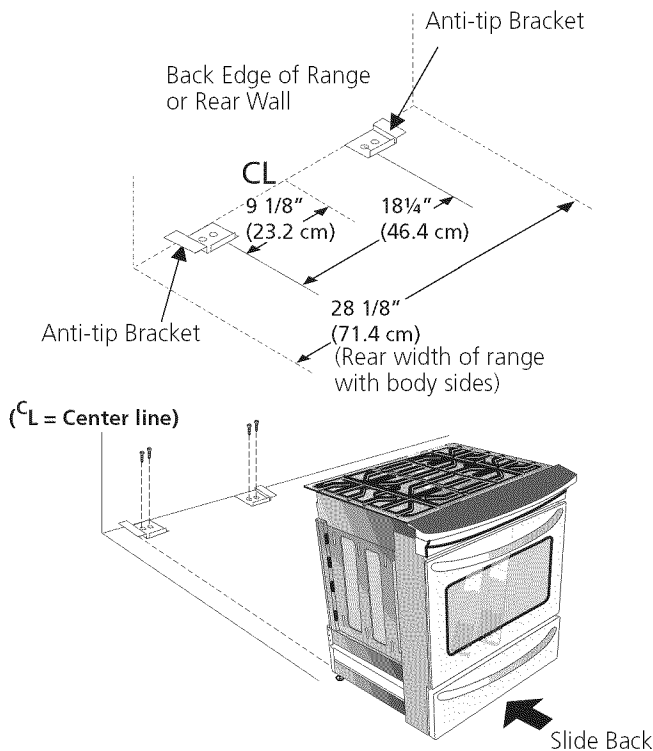

Figure 16
1. Unfold paper template and place it flat on the floor with the back and side edges positioned exactly where the back and sides of range will be located when installed. (Use the diagram below to locate brackets if template is not available. (Figure 16))